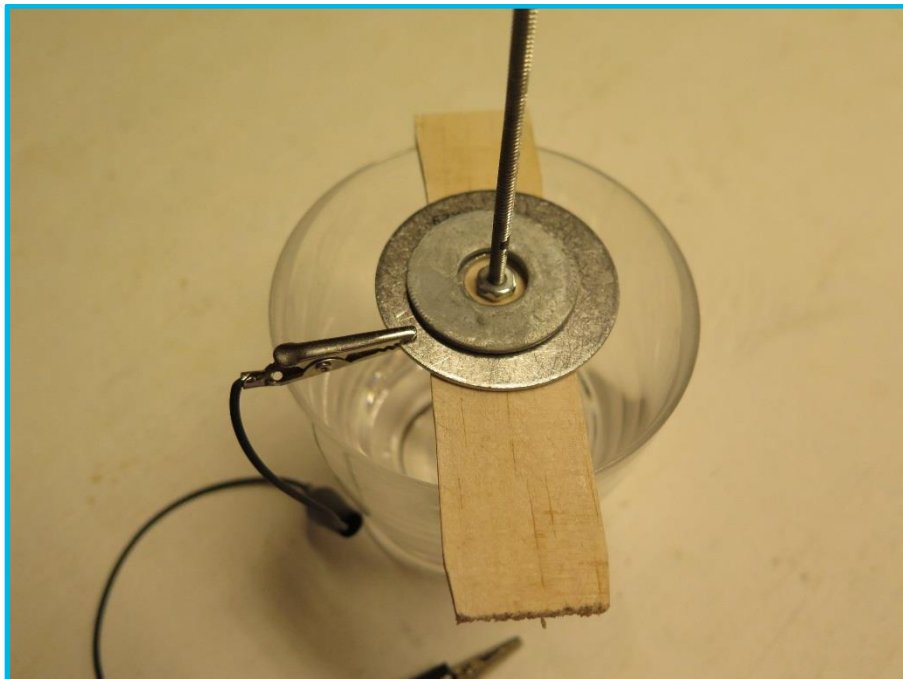

Figure 3
8. Ask your teacher to locate a length of threaded steel rod about 1/8" (about 3 mm) diameter. In Figure 3 the rod is what is known as "#6-22". This means #6 diameter (American size) with 22 threads per inch. A standard length in the store is 12" (30 cm). This will be too long, but it doesn't matter. Leave it as it is.